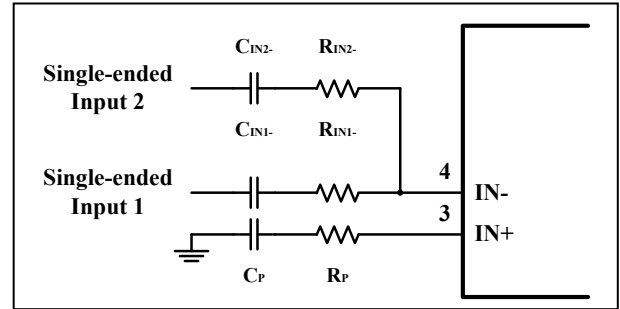

Figure 16 Application Circuit with Summing Two Single-Ended Inputs
The corner frequencies (f_{C1} and f_{C2}) for each input source can be set independently by Equations (9) and (10). Resistor, R_P , and capacitor, C_P , are needed on the IN+ terminal to match the impedance on the IN- terminal (Figure 16). The gain for each input source can be set independently by Equations (4) and (5).